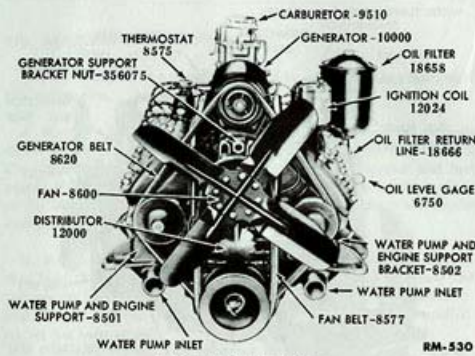

Fig. 3—Engine, Front View
c. **Remove Fans.** Two types of fans have been used; bracket mounted fans and pulley mounted fans. The procedure for their removal is contained in subparagraphs (1) and (2) below.
e. **Remove Spark Plug Wires and Conduits and Spark Plugs.** Remove the spark plug wires from the spark plugs. Remove the cap screws that hold each spark plug wire conduit to the intake manifold (fig. 3). Remove the distributor cap bail from each cap and remove the caps from the distributor. On the one-cap type distributor, release the clips from the cap, and remove the cap. Remove the
(1) **ONE-CAP TYPE DISTRIBUTOR.** Disconnect all wires from the coil (fig. 3). Remove the two cap screws that hold the coil to the coil bracket on the intake manifold, and remove the coil from the bracket. Remove the two cap screws that hold the distributor to the cylinder front cover, and remove the distributor.
g. **Remove Oil Filter.** Disconnect the oil return line and oil intake line from the oil filter (fig. 3). Remove the three nuts that hold the filter to the cylinder head, and remove the filter.